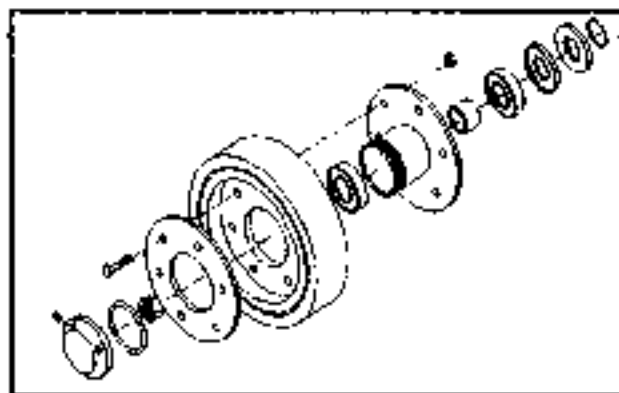
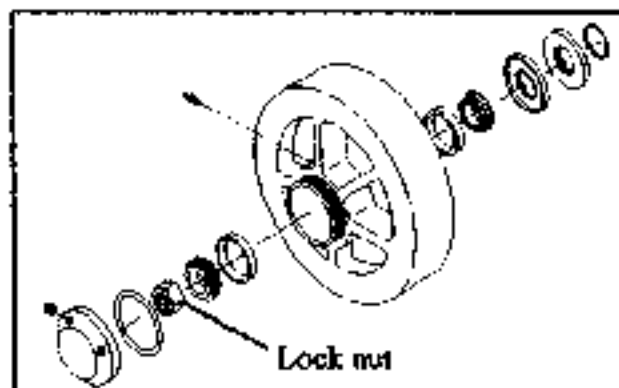

FIG 60
FIG 61
2) Fig 60 and 61 show the two types of wheel assemblies used on the Posi-Track. Fig 60 shows the steel hub with ball bearings and Fig 61 shows the aluminum wheel with tapered roller bearings.